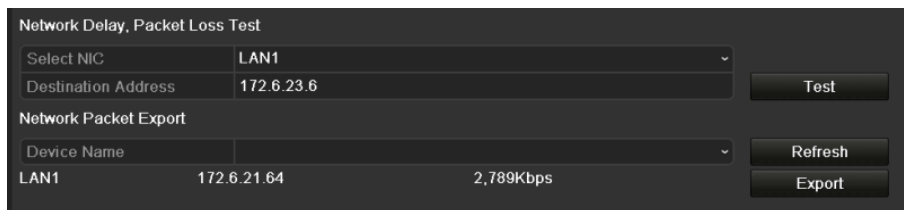

Figure 11-24 Network Detection Interface
Step 2 Click the **Network Detection** tab to enter the Network Detection menu, as shown in Figure 11-24.